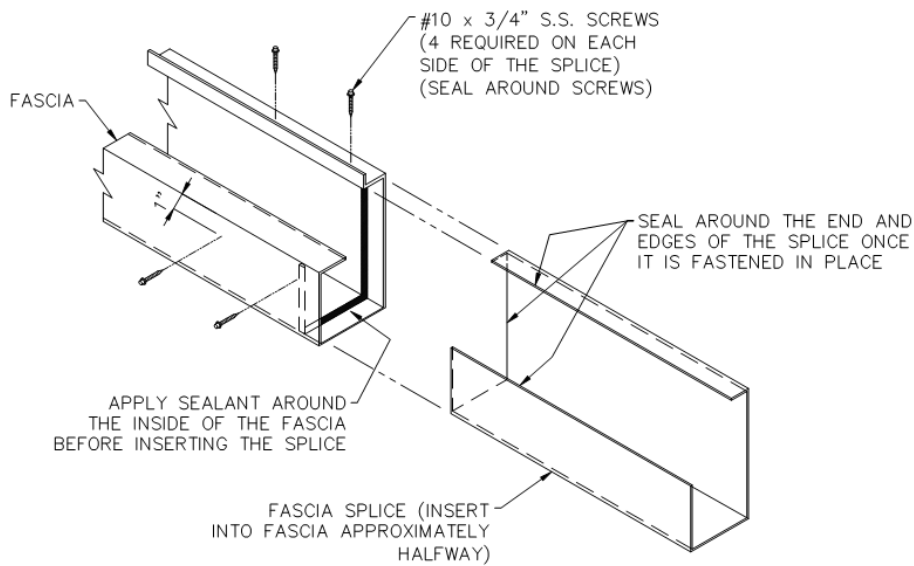
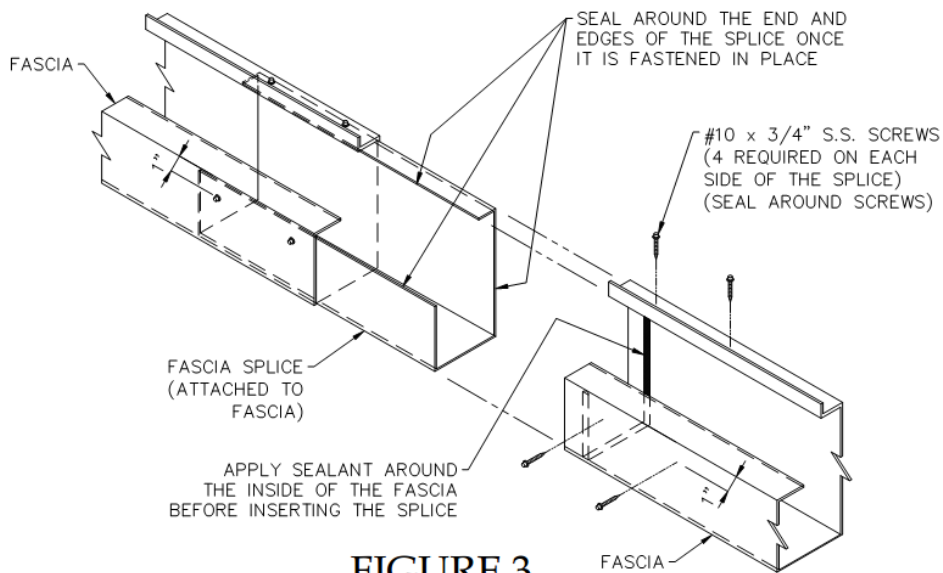

FIGURE 2
FIGURE 3
- If the canopy length requires the fascia to have a splice, attach the splice to one of the pieces of fascia (Figure 2). If the length of the canopy is not too long, attach the other piece of fascia to the splice (Figure 3) before attaching the fascia to the wall. Seal all around the splice and the screws in the gutter portion of the fascia (Figure 3).
- If the canopy length requires more than one splice, attach a splice (Figure 2) to the same end of each piece of fascia except the last piece which finishes out the canopy length.